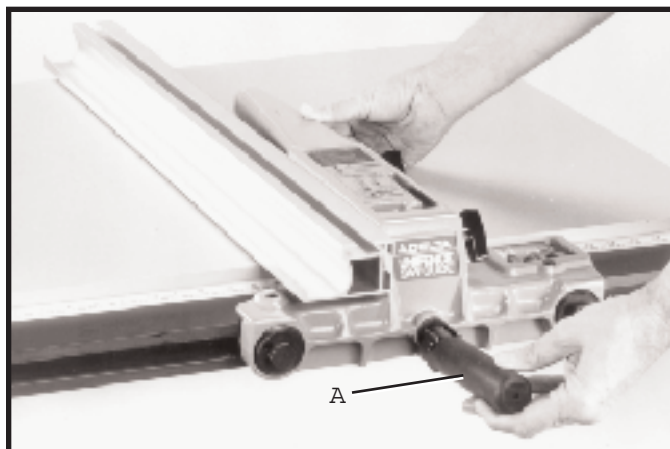

Fig. 52
4. To move the fence along the guide rail, simply lift up clamp lever (A), as shown in Fig. 52, slide fence to desired position on the rail, and push down on clamp lever (A) to lock fence in place.